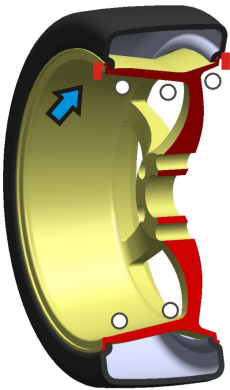

Fig. 4
4.1.7. Anticlockwise moving wheel slowly, until the left LED lit up full, clip weight on 12 o'clock position (Fig.4)